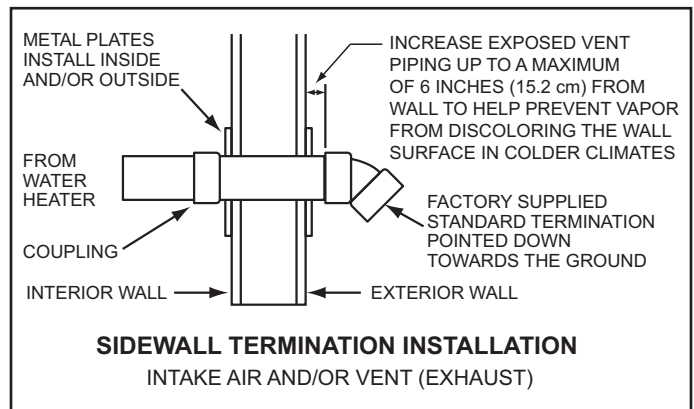

Figure 27
- Cut a length(s) of pipe being installed 3.5 inches (8.9 cm) to 9.5 inches (24.1 cm) longer than the wall thickness at the opening. See Figure 27.
- Working from outside, slide the pipe and termination(s) assembled in the above steps through the wall. Ensure the termination(s) is pointed down towards the ground. See Figure 27.
- Install a coupling to the end of the pipe(s) inside the building. Before the silicone caulking has time to completely set go outside the building and ensure the termination(s) is still pointing down towards the ground. See Figure 27.